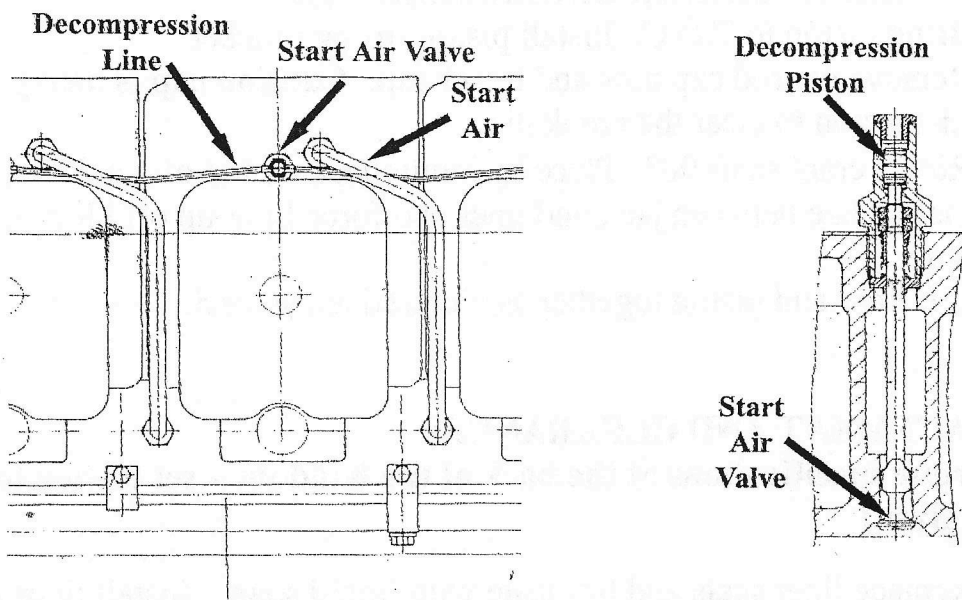

FIGURE 1
2. Remove air start line and the decompression air line (see *figure 1*).